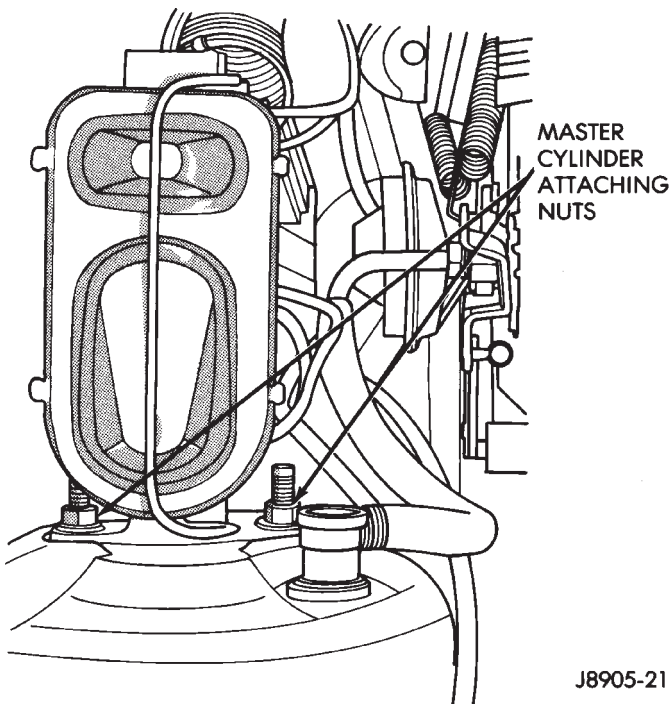
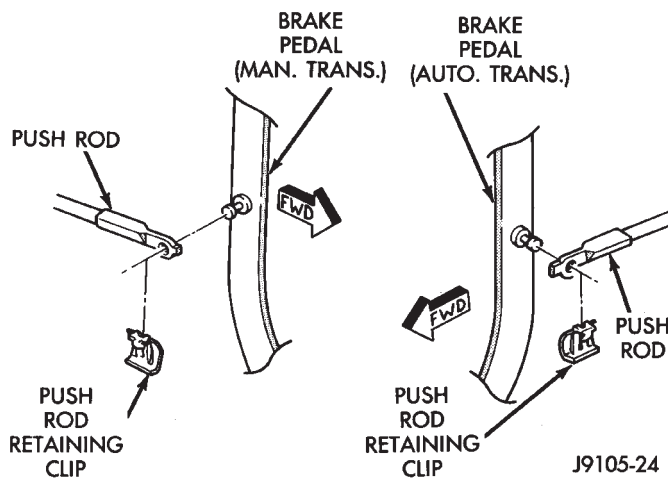
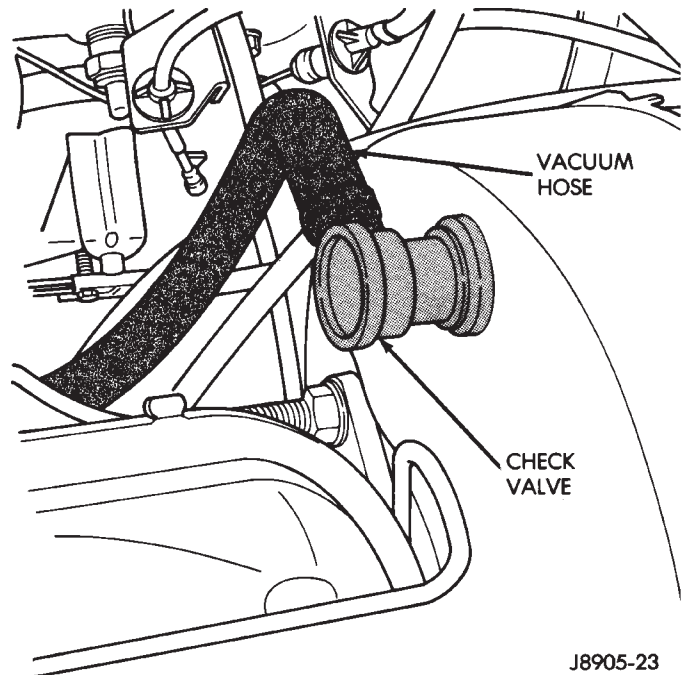

Fig. 3 Master Cylinder Attachment (Typical)
Fig. 4 Booster Push Rod Attachment
Fig. 5 Booster Check Valve And Hose
- (1) Loosen but do not remove nuts attaching master cylinder to booster (Fig. 3).
- (2) Remove instrument panel lower trim cover.
- (3) Remove retaining clip attaching booster push rod to brake pedal (Fig. 4).
- (4) Remove bolts/nuts attaching booster to dash panel.
- (5) In engine compartment, loosen vacuum hose clamp and disconnect vacuum hose from booster check valve (Fig. 5).
- (6) Remove master cylinder attaching nuts and remove cylinder from mounting studs on booster.